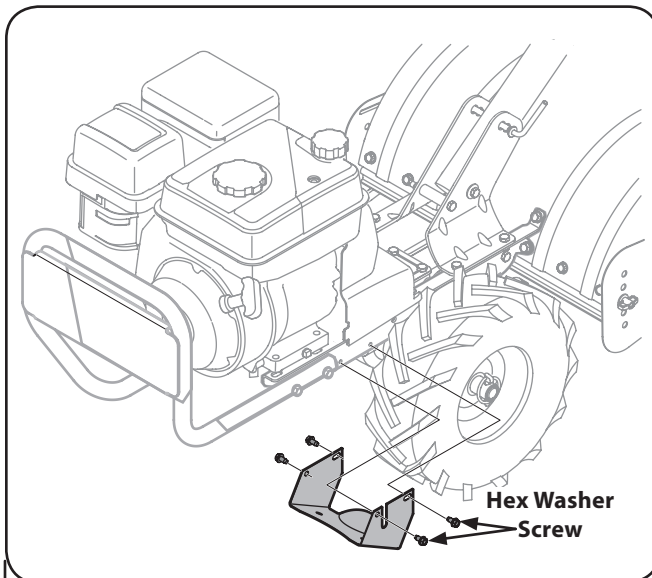

Figure 7-2
3. Remove the four ¼-20 hex washer screws that secure the pulley shield to the frame as seen in Figure 7-2, and remove the pulley shield and set aside in a safe location until reinstallation.